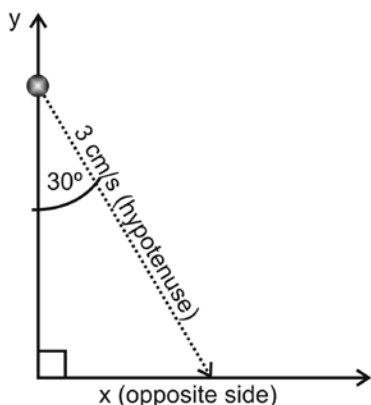

FIGURE 4.23
- 4.10** A conductor oriented along the Z-axis is traveling at a speed of 3 centimeters per second at an angle of 30° relative to the Y-axis. What is the speed of the conductor in the direction of the X-axis? (Hint: The sine of an angle is the opposite side over the hypotenuse. See the diagram in Figure 4.23.)